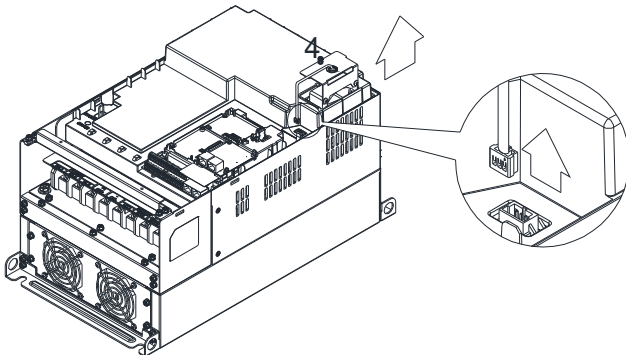

Figure 3
3. Loosen screw 4 (figure 3) and disconnect fan power and pull out the fan. (As shown in the enlarged picture 3) Screw 4 『Torque : 10~12kgf-cm (8.6~10.4lb-in)』